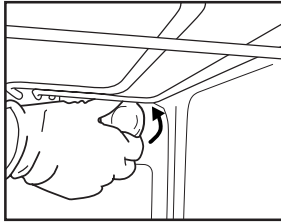

Fig. 6
2. Unscrew the lamp cover (Fig. 6), replace the lamp (see note for lamp type) and screw the lamp cover back on.